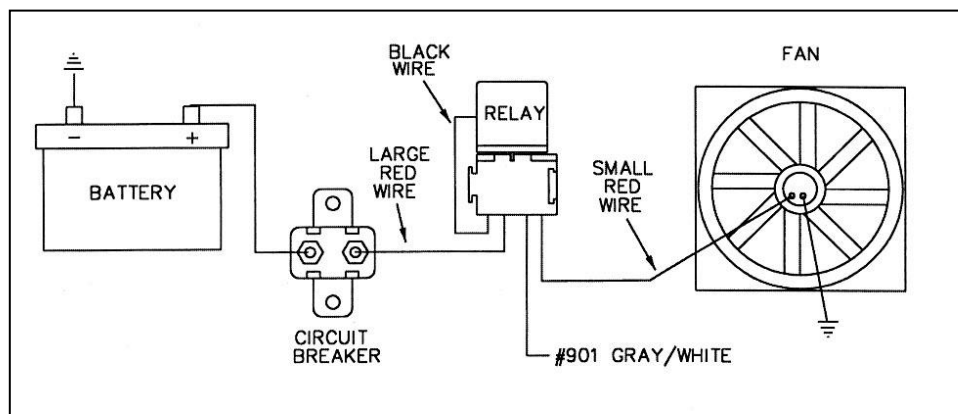
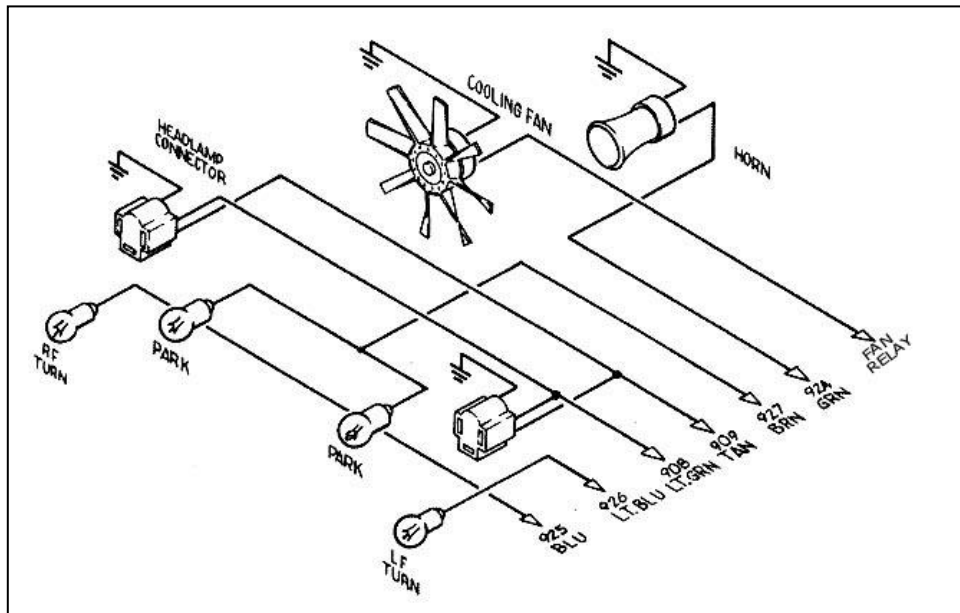

Figure 10-4A Typical Fan Relay Installation (Painless Part #30101)
Figure 10-4B HEADLIGHT SECTION A Wiring
10.5 HEADLIGHT SECTION A. See Figure 10-4B.
- 10.5.4** Connect HEADLIGHT SECTION A wire #901 (gry/wht) to the Electric Fan Relay. This wire is an activation wire for the relay, **NOT A POWER FEED**. The other end of wire #901 is in the ACCESSORY SECTION SWITCHES and should be connected to the electric fan switch in the dash. Connect 906 (gry/wht) from ACCESSORY SECTION B+ to the other side of the fan switch. **Figure 10-4A** shows a typical fan relay installation. **Note:** The wire going to the fan in Figure 10-4B will be coming from the fan relay output terminal. Wire #901 (gry/wht) from the ACCESSORY SECTION SWITCHES is an activation wire for the fan relay.